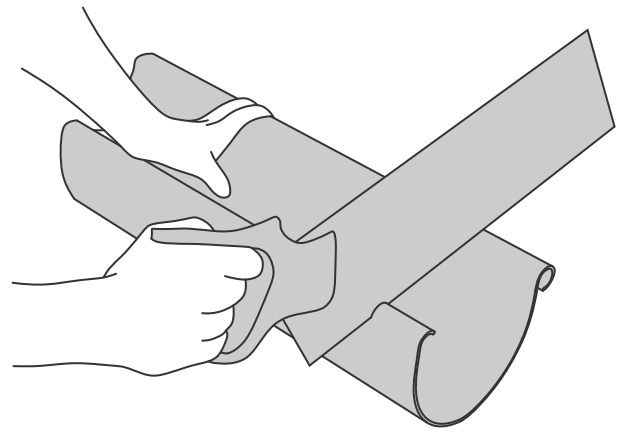

Fig. 13
9. Cut the notches as marked using a fine tooth saw (Fig. 13).